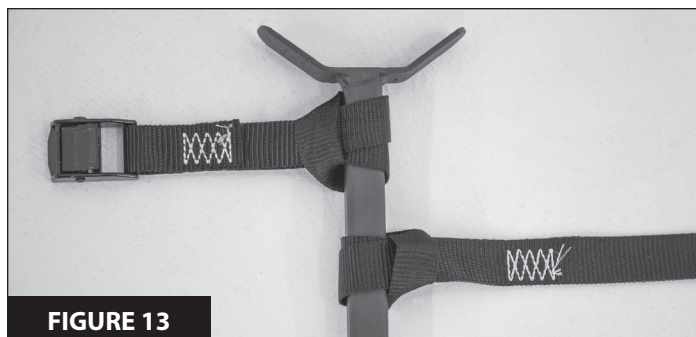

FIGURE 13
4. While two people hold the stand in place, the third person should connect the horizontal stabilizer bar to the tree. Adjust the length of the stabilizer bar as need so it contacts the tree and is level to the ground. Then secure it to the tree with the 6' cam strap (42) by forming a cinch knot with both ends of the strap and running the long end of the strap through the cam buckle. **SEE FIGURES 13 AND 14.**